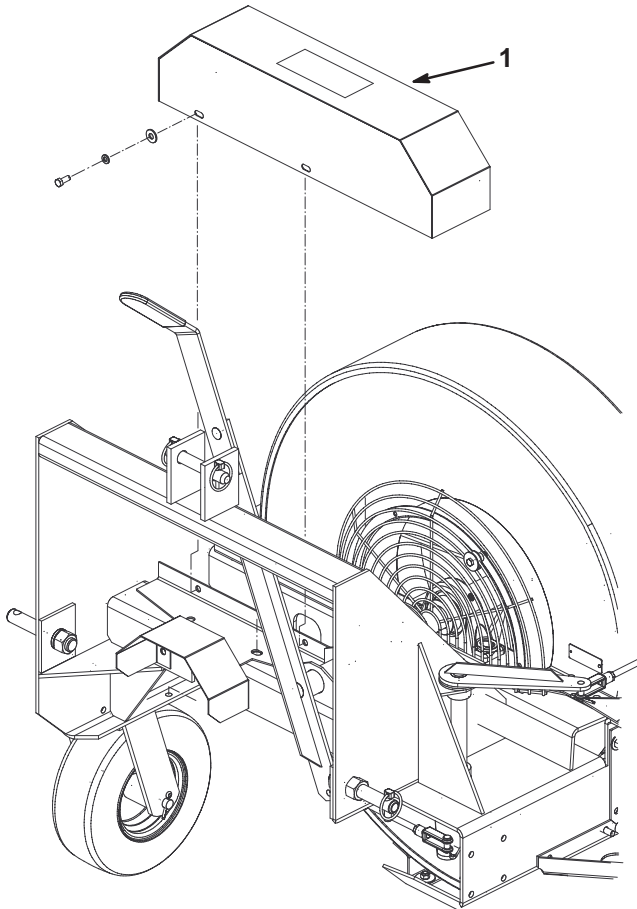

Figure 14
1. Remove the 3 capscrews, 6 washers, and 3 nuts securing the belt guard to the blower housing (Fig. 14). Remove the guard.